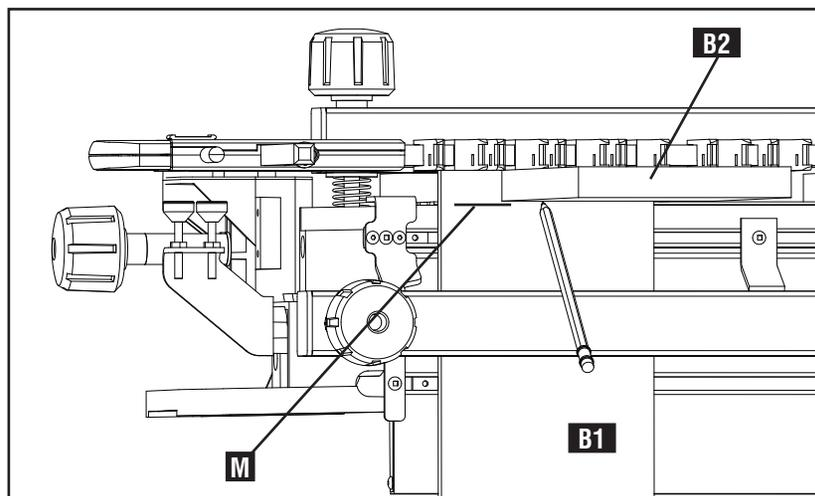

Fig. I9
- 6 Your router bit depth should match the thickness of the second board you are cutting, or B2 (Fig. I9). This is the board that will be joined with the first board, B1.
- 7 To set router bit depth, mark a line (M) Fig. I9 on B1 using the thickness of B2, as shown.
- 8 Place router on template and set router bit depth to this line (M).